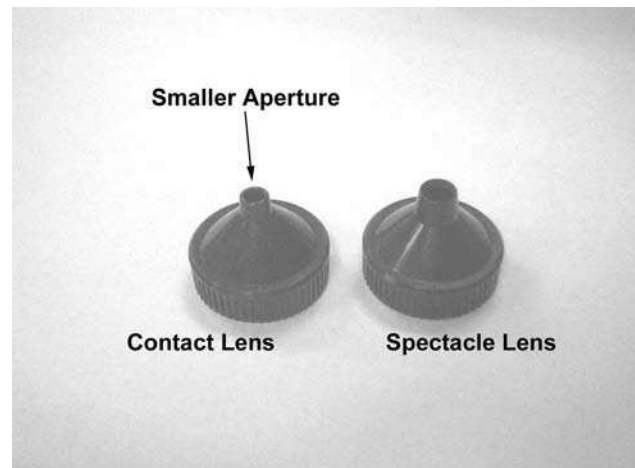

Fig. 13
2. Install the contact lens stop in place of the spectacle lens stop. The contact lens stop has a smaller aperture than the spectacle lens stop. (Figure 13)